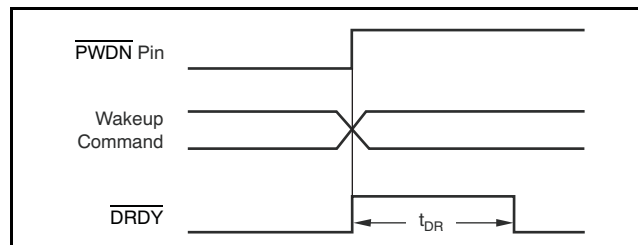

Figure 41.  $\overline{\text{PWDN}}$  Pin and Wake-Up Command Timing
In power-down, note that the device outputs remain active and the device inputs must not float. When the Standby command is sent, the SPI port and the configuration registers are kept active. Figure 41 and Table 13 show the timing.
(1) See Figure 41 and Table 13 for time to new data.